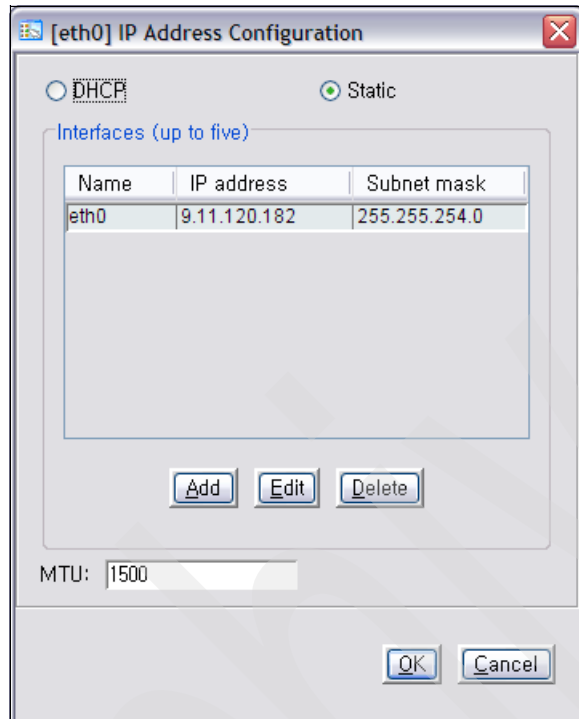

Figure 6-30 IP Address Configuration menu
3. You can review (and optionally) change the settings for each TS7530 for Tape Server Network Interface Card (NIC) by selecting either ETH0 or ETH1 from the NIC drop-down and clicking **Config NIC** on the panel shown in Figure 6-30. When the IP Address Configuration panel is displayed (Figure 6-30) you can add, edit, or delete the IP address. In Version 2 Release 1, Eth1 was a DHCP address by default. With the TS7530 VE for Tape Server, this address is static by default. In this way booting will be faster since the machine does not try to boot from a DHCP server that may not be there.